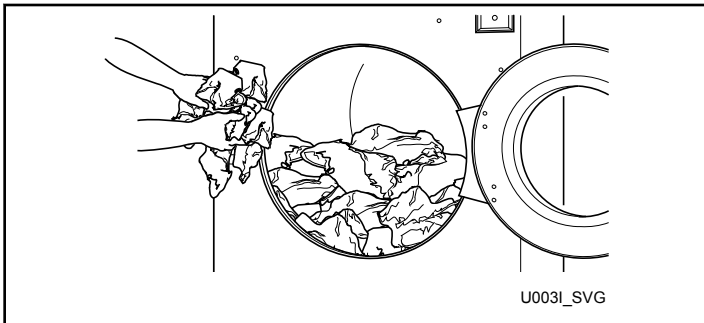

Figure 40
3. Load to capacity whenever possible. DO NOT OVERLOAD. Refer to *Figure 40*.